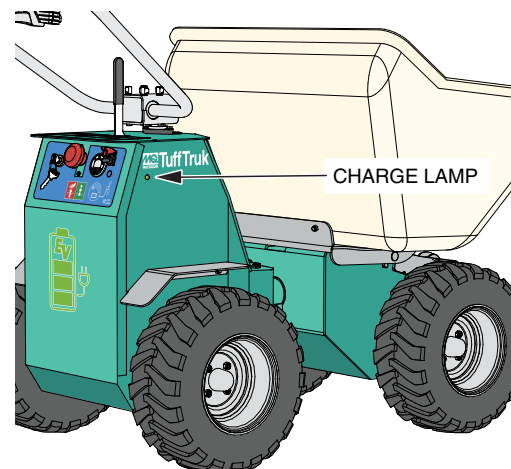

Figure 20. Charging Light
5. Charging of the batteries can be observed by viewing the small window (Figure 20) on the left-hand side of the battery box. The charging light is normally **ORANGE** which changes to **GREEN** when the batteries are fully charged.